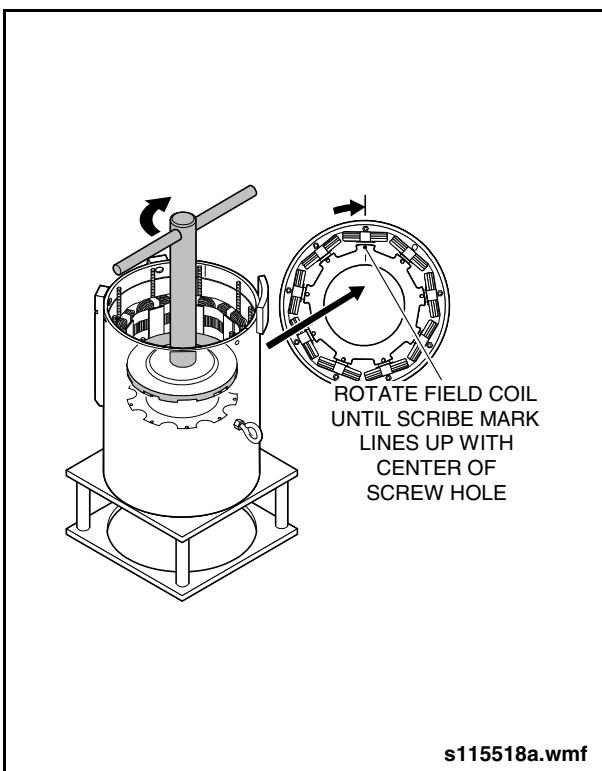

Fig. 9-26: ADE Field Coil Installation
- c. Align bobbin ears over stator tabs from anti-drive end. Use stator & field coil tool (Item 3 from Special Tools List) to rotate field coil and center screw holes. See "Fig. 9-26: ADE Field Coil Installation" on page 33.